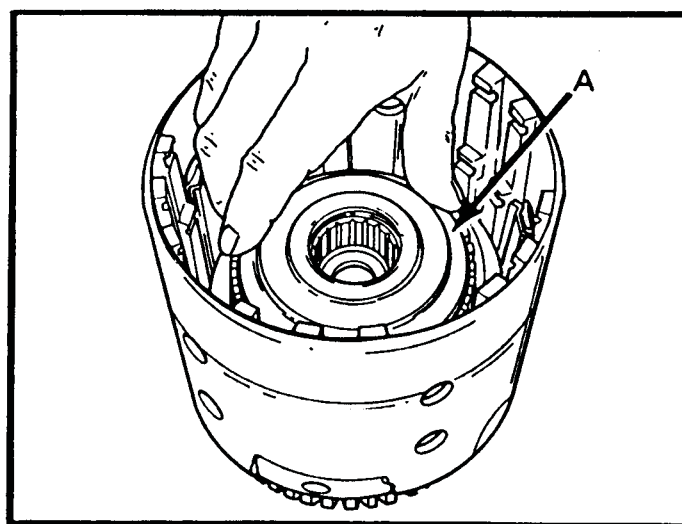

Figure 100
8. Install forward sprag assembly into the input housing by turning, and indexing the overrun clutch hub into the overrun clutch friction plates, as shown in Figure 100.